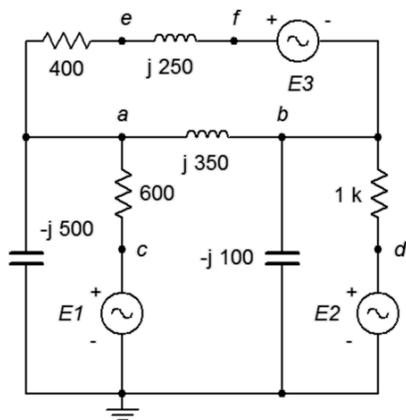

Figure 5.44
79. In the circuit of Figure 5.44, use any method or combination of methods to determine  $v_{ab}$ .  $E1 = 5\angle 0^\circ$ ,  $E2 = 10\angle 90^\circ$  and  $E3 = 15\angle 0^\circ$ .